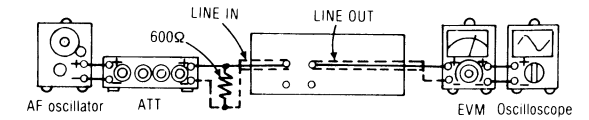

Fig. 6
- The serial number plate of the product is attached to the back chassis (shown in fig. 6).
1. Test equipment connection is shown in Fig. 6.
6. If it is not within the standard, adjust VR3 (L-CH) {VR4 (R-CH)} and repeat the step (2), (3) and (4) until the output is within the standard.